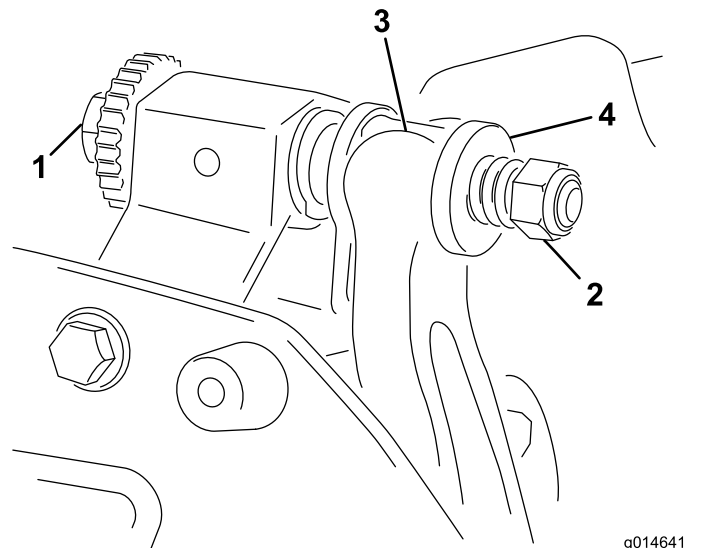

Figure 13
1. Turn the bedbar adjusting screw, counterclockwise, to back the bedknife away from the reel (Figure 13).
2. Back out the spring-tension nut until the washer is no longer tensioned against the bedbar (Figure 13).
- Install the bedbar, positioning the mounting ears between the washers and the bedbar-adjusting screw (Figure 13).